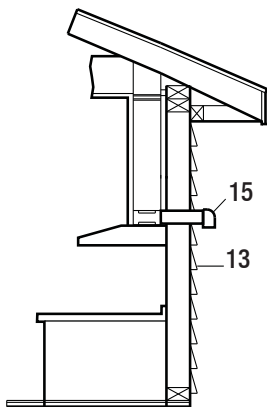
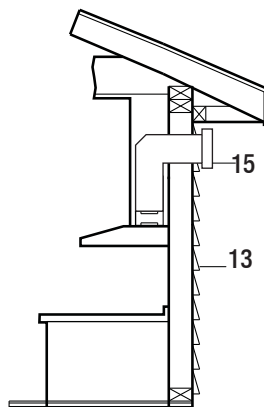
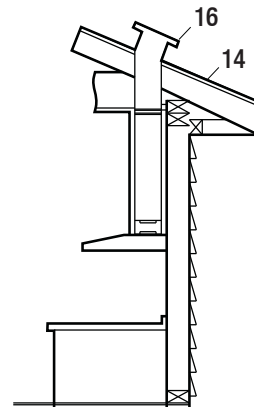

Fig.8
Fig. 9
Fig. 10
- Your venting system must vent to the outdoors either horizontally through the back wall (13) or vertically through the roof (14) (refer to Fig. 8/ Fig. 9/ Fig. 10).